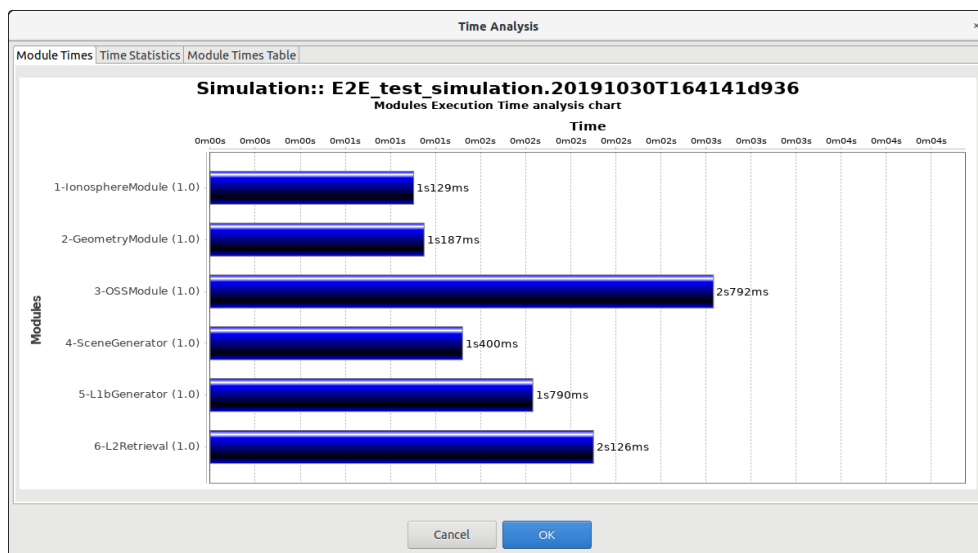

Figure 4-53: Bar graph showing module times
- Module Times* tab: presents the module execution time in a bar chart graph¹⁰. See Figure 4-53.